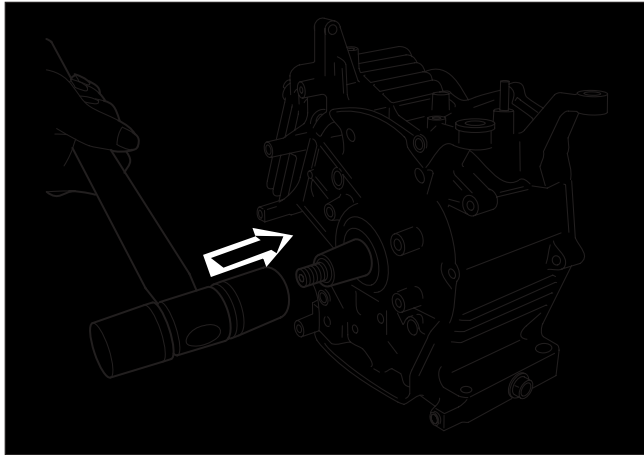

Fig.5-24
| 27 | Crankshaft | (1) Remove the woodruff key (for the flywheel magneto). (2) Remove the crankshaft from the crankcase by tapping its magneto side end with a plastic hammer, taking care not to damage the oil seal. (See Fig. 5-24) | Plastic hammer |